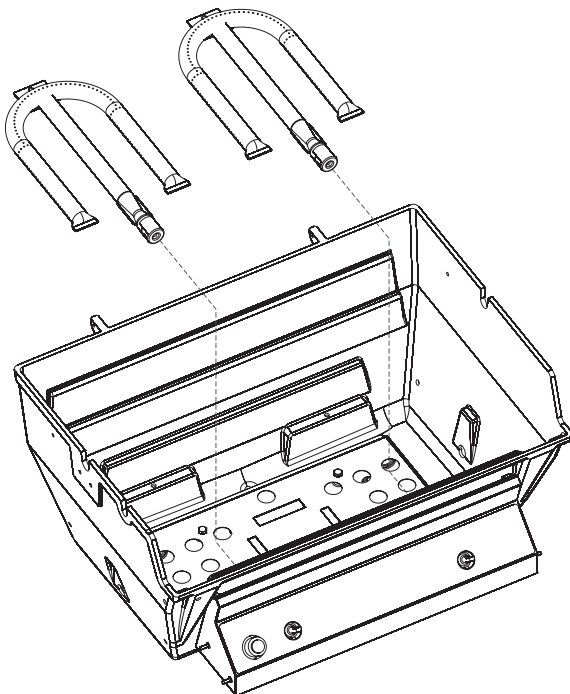

Figure 2
3. Place burners (8) into grill and insert burner tubes over orifice fittings on valve (17). Secure each burner and burner shield (25) with one (1) 1/4-20 x 3/4 phillips screw and nut. See Figures 2, 3 and 4.